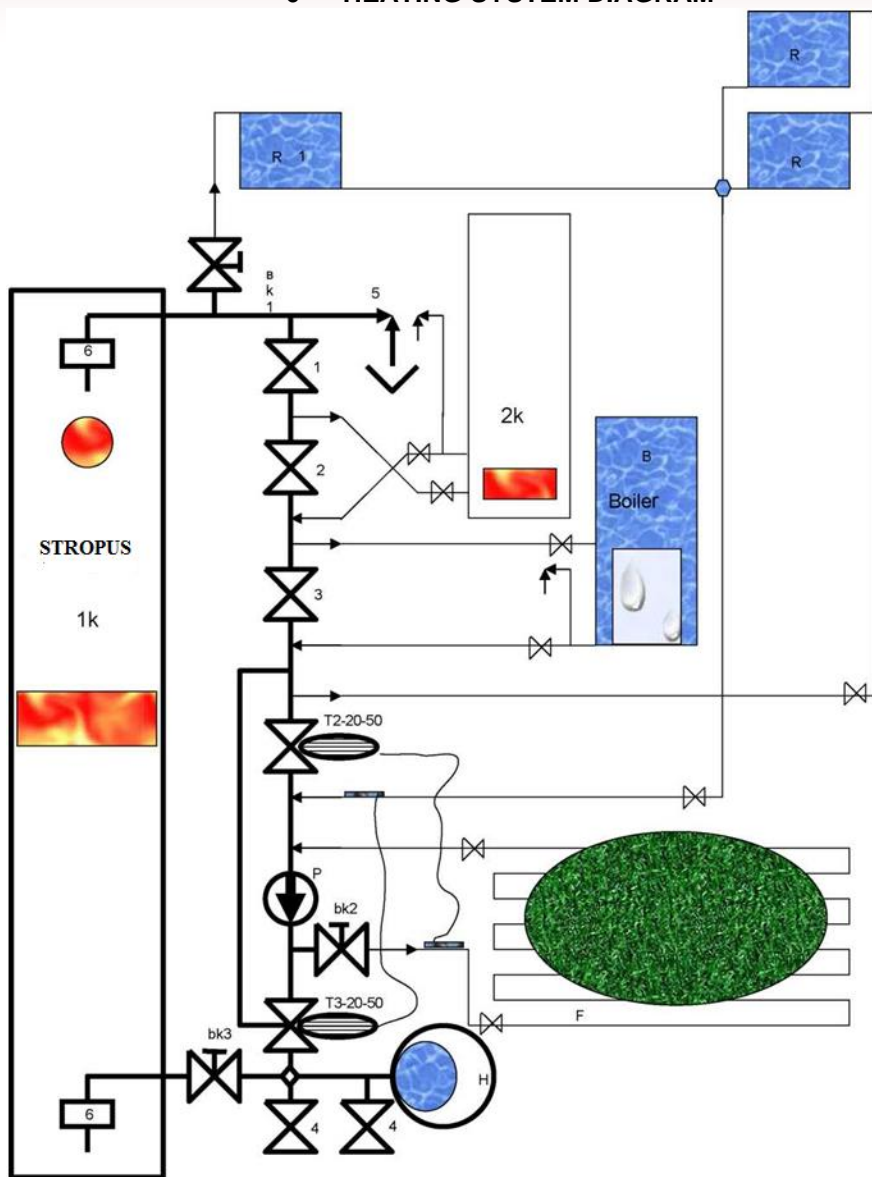

Figure 10
b) If after igniting fuel you hear rhythmic noise and occasionally see smoke coming out it means that flue traction is too strong – boiler is unable to attain its power and works very inefficiently: in this case, you need to let some air into the flue through special opening on horizontal connection. Metal band flue ring must be pushed till the pulsation of boiler disappears (see Fig. 10).